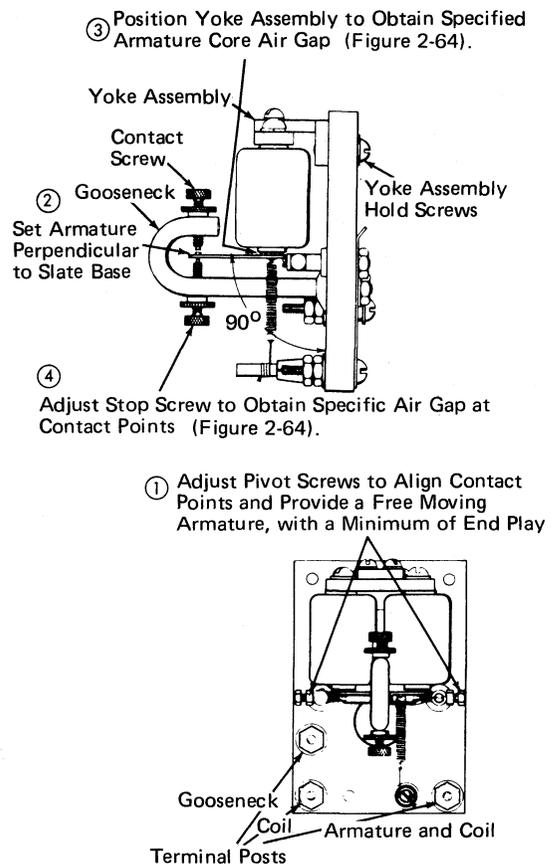

Figure 2-63. Slate Base High-Speed Relay
The slate-base relay (Figure 2-63) is one of IBM's oldest relays and is used in those applications requiring high-speed operation. It is designed to operate on 110 volts dc and has an operating pickup speed of 1 to 2 ms. Dropout time is approximately 2 ms. These relays are supplied in three general classifications:
1. Adjust pivot screws (Figure 2-63) to hold armature laterally so that its point lines up with the contact point in the upper or lower screw. Back off one pivot screw 1/6 turn from fingertight position and tighten lock nuts.